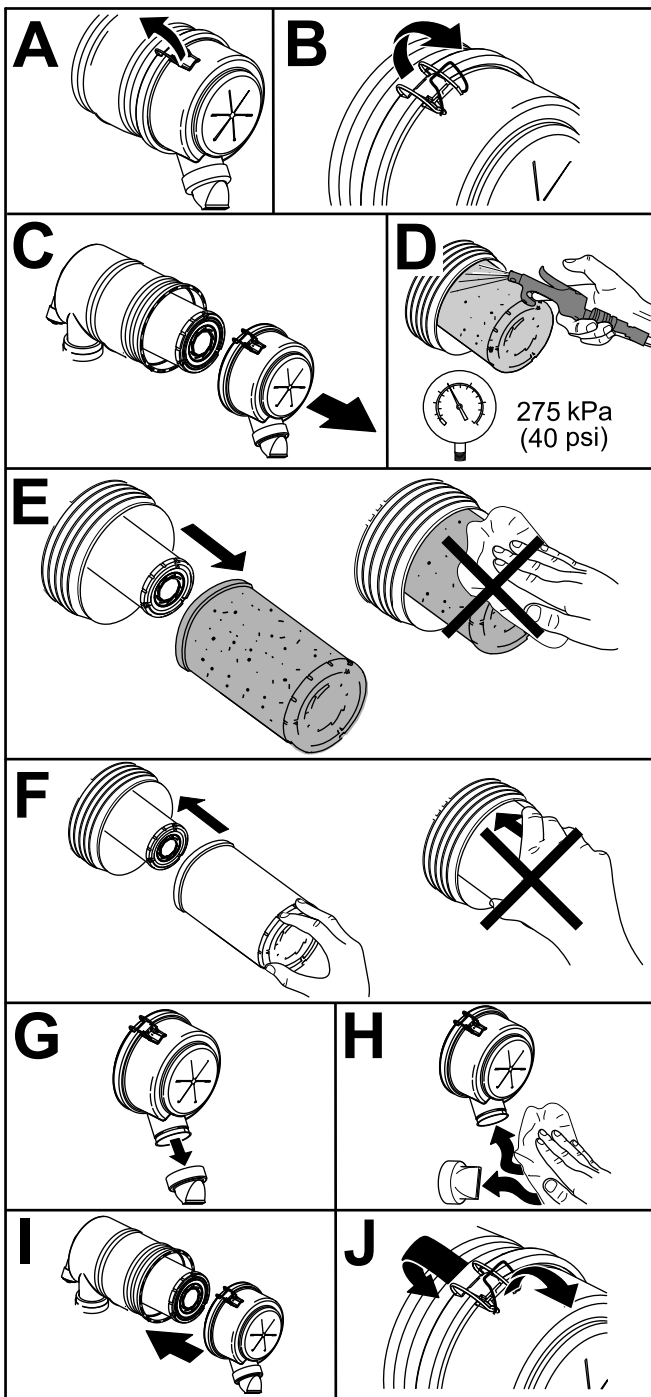

Figure 49
1. Replace the air cleaner (Figure 49).